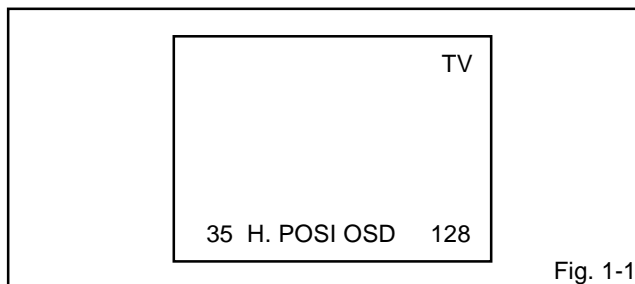

Fig. 1-1
1. In the condition of NO indication on the screen. Press the VOL. DOWN button on the set and the Channel button (**9**) on the remote control for more than 2 seconds to appear the adjustment mode on the screen as shown in **Fig. 1-1**.
4. Activate the adjustment mode display of **Fig. 1-1** and press the channel button (**01**) on the remote control to select "RF AGC".
3. Activate the adjustment mode display of **Fig. 1-1** and press the channel button (**00**) on the remote control to select "CUT OFF".
4. Activate the adjustment mode display of **Fig. 1-1** and press the channel button (**04**) on the remote control to select "R CUT OFF".